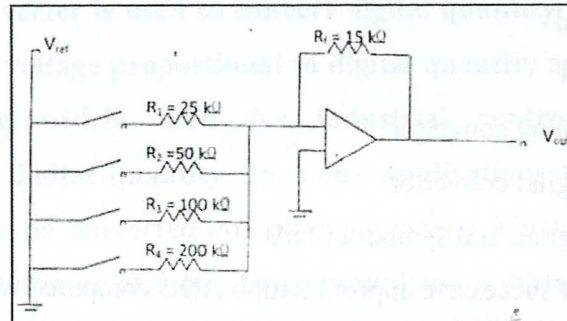

Figure 5(a)
- 5) Figure 5(a) shows the circuit of 4-bit weighted resistor DAC. The inputs are binary inputs which have the values between 0V and 10V. Calculate :